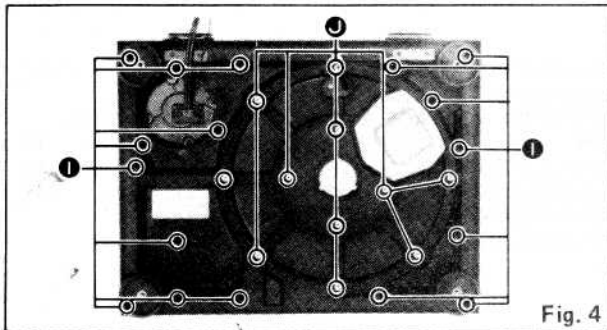

Fig. 4
9. Remove 17 screws and spacer **I** as shown in Fig. 4.
10. Remove 11 screws **J** as shown in Fig. 4.